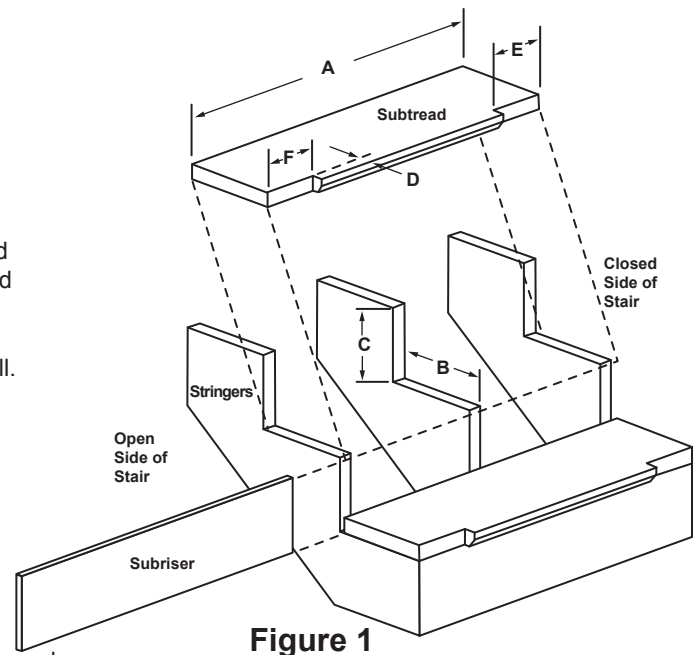
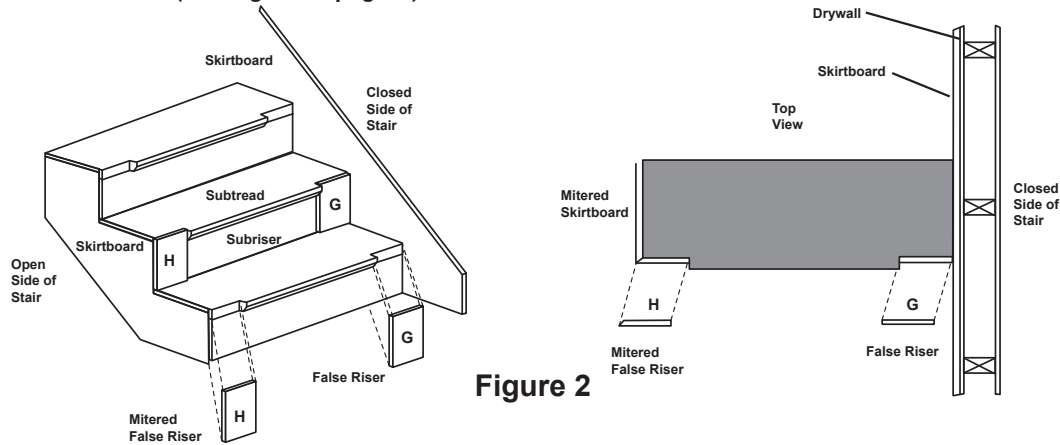

Figure 1
Figure 2
1. Lay out the three stringers to the required rise and run (C and B respectively). Accuracy is important for ease of fitting the false treads and risers later. (See Figure 1.)
2. Allowing space against the stud wall for drywall and a finished skirtboard, space the stringers equally and secure the top and bottom into place. (See Figure 1 and Figure 2, page 2.)
3. Cut the subriser to the overall width of the stringers and install. (See Figure 1.)
4. Using Figure 1 and the steps below, prepare the subtreads.
If using 2x12's for the subtreads, chamfer the bottom edge of **D** in Figure 1.
5. Install the finished skirtboard on the closed side of the stair. (See Figure 2 page 2, if applicable.)
6. When cutting out the open side finished skirtboard, miter cut each rise at 45° (See Figure 2 page 2) to avoid exposing end grain on the false riser. Install the finished skirtboard. (See Figure 2 page 2, if applicable.)
1. Fit and install the false risers on the closed side of the stair **G** using glue and finish nails. (See Figure 2.)
2. Cut a 45° miter on all false risers for the open side of the stair **H**. Fit and install the risers on the open side of the stair **H** using glue and finish nails. (See Figure 2.)
4. Install the risers and treads opposite the false starting step. (See **Figure 2, 3, and 5c.**)